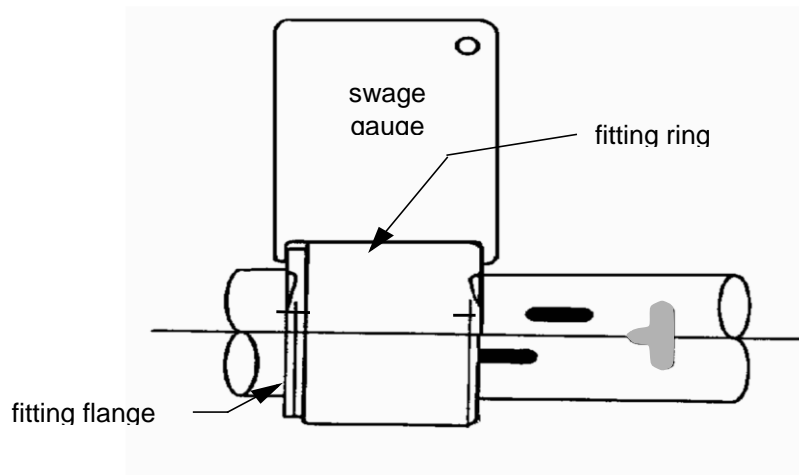

Figure 4 - Use of Swage Gauges
- Step 6. Check all around the swaged fitting flange/fitting ring as shown in Figure 4 using the swage gauge specified in Table 5. If the gauge does not fit freely, reswage the fitting according to section 5.5 at about 90° from its original swaging position and re-check. A gap between the fitting flange and the ring leading edge is acceptable and will not affect joint integrity provided that the requirements of this PPS are met.